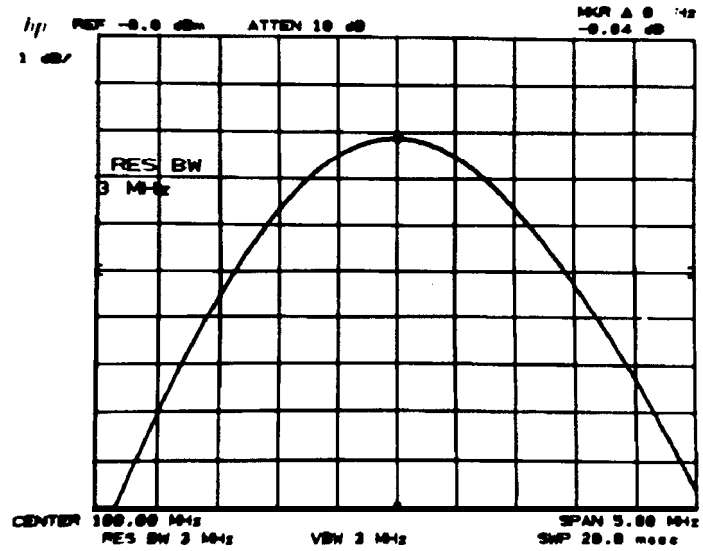

Figure 2-7. Bandwidth Switching Uncertainty Measurement
- Key in settings according to Table 2-6. Press MARKER **[PEAK SEARCH]** at each setting, then read the amplitude deviation from the MARKER A readout at the upper right of the display. (See Figure 2-7.) The allowable deviation for each resolution bandwidth setting is shown in the table.